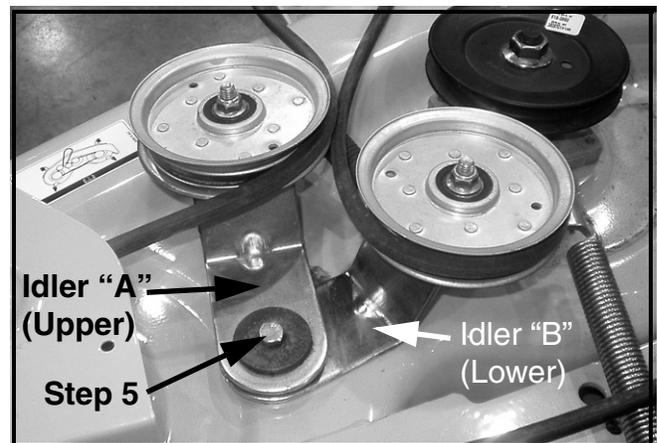

FIGURE 2
4. Refer to Figure 2. Using a 9/16" socket and ratchet and a 9/16" box wrench, remove and discard the locknut from the underside of the deck that retains Idlers "A" and "B". Retain the bolt and thick flat washer.